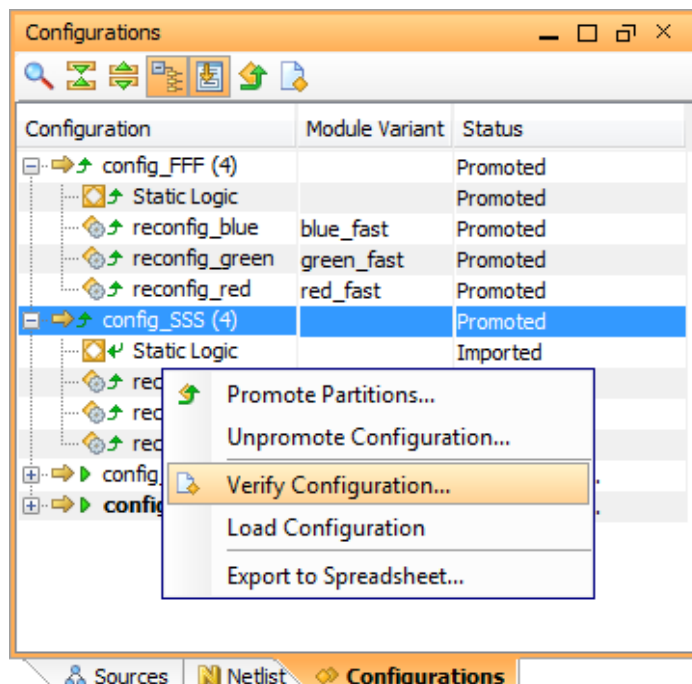

Figure 4-38: Verifying Configurations
1. From the Configurations pane using the popup menu launch `pr_verify`, shown in Figure 4-38. This is an important step in a Partial Reconfiguration design to ensure that all design rules have been met.